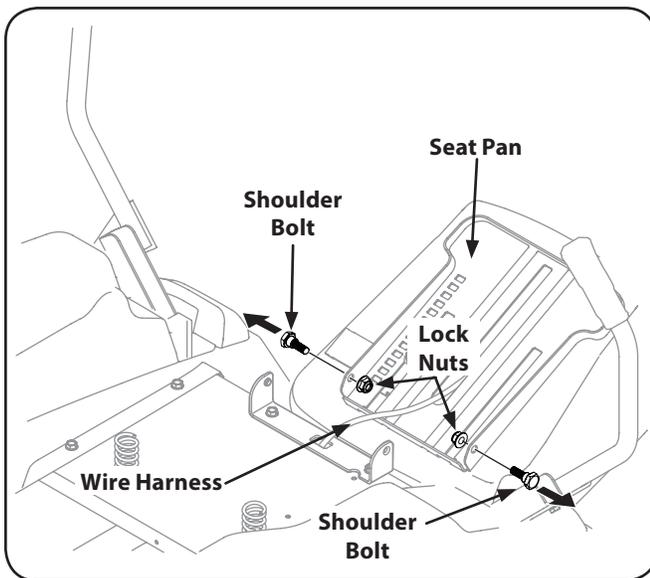

Figure 3-4
2. Remove the two shoulder bolts and lock nuts in the seat pan as shown in Figure 3-4.